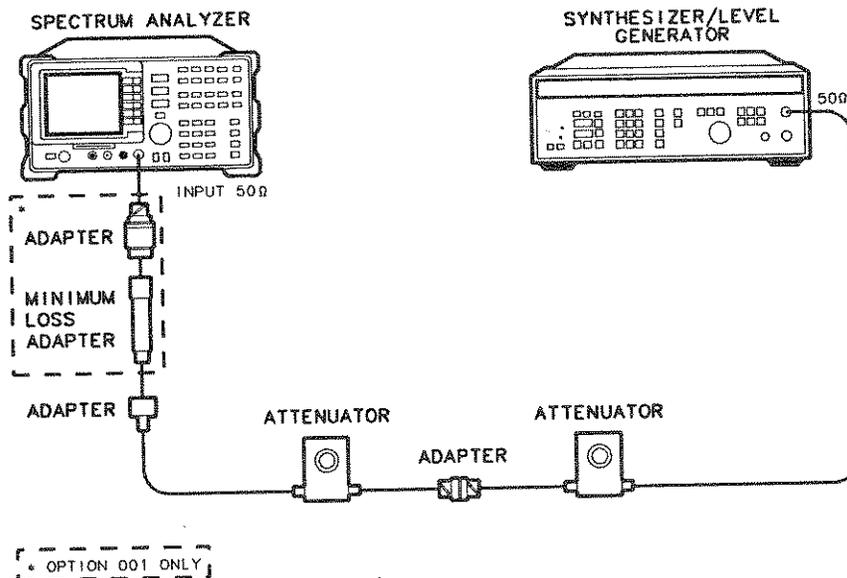

Figure 3-8. Scale Fidelity Test Setup
2. Connect the equipment as shown in Figure 3-8. Set the HP 355D to 10 dB attenuation and the 355C to 0 dB attenuation.